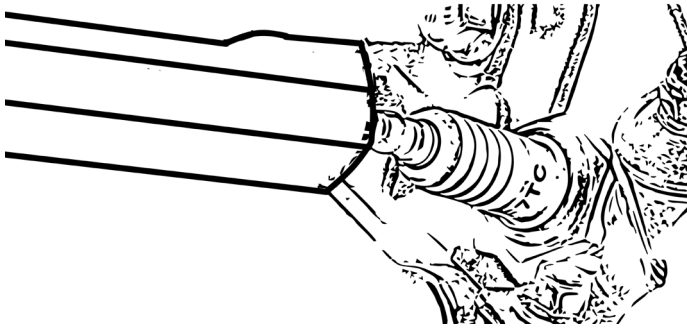

Figure 25
- Loosen the spark plug using the spark plug wrench, Fig. 25.